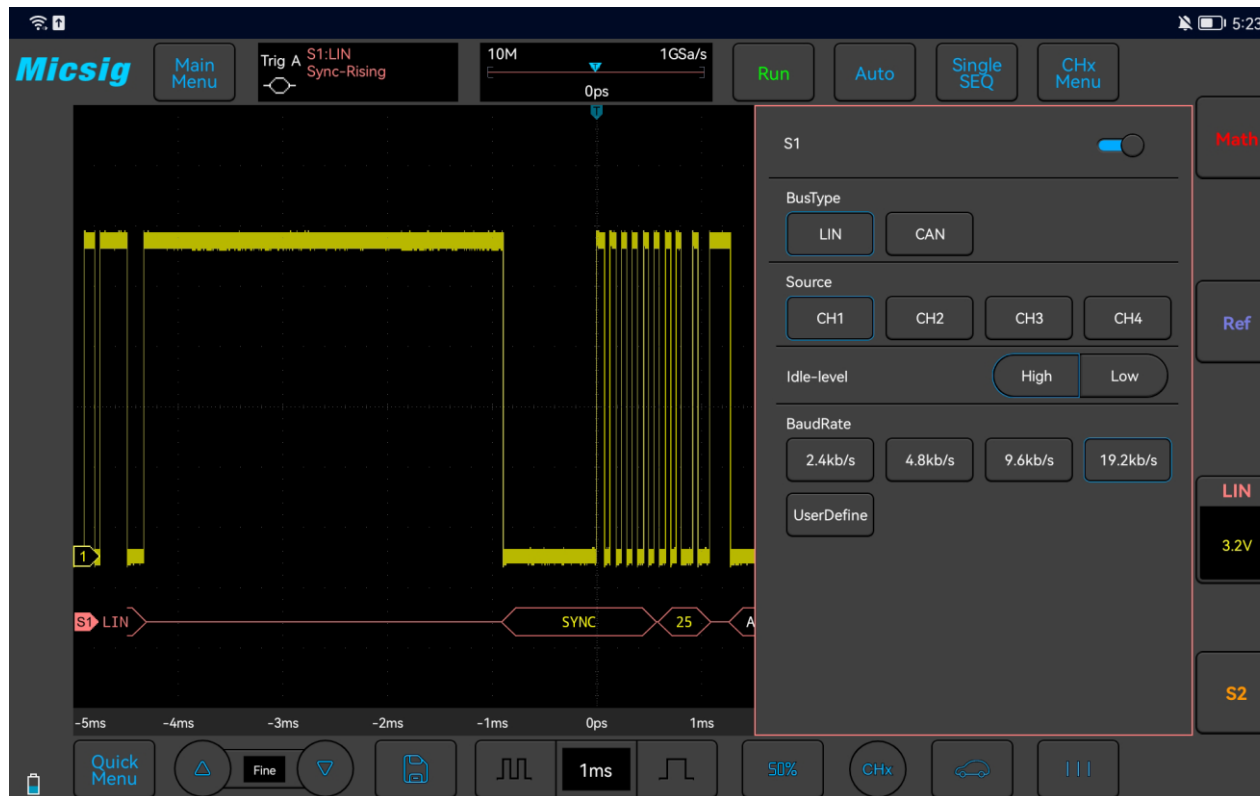

Figure 12-2 LIN Bus Configuration Menu
(1) Tap S1 to open the decode channel, and click S1 again to open the bus configuration menu;
(2) Select the bus type as “LIN”, click “Ch1”, “Idle High”, “Parity None”, “8bit”, “19.20kb/s”, display “hexadecimal”, then close menu;
(3) Open the trigger mode setting menu, click “Data”, enter 55 manually, and press “enter” to confirm;
(4) Adjusting the threshold level according to the amplitude level of signal may make the signal to be stably triggered. The LIN trigger graphic interface is shown in Figure 12-2:
Method: Click configuration information  to open the decode channel threshold level adjustment box, and drag the adjustment box upward and downward to adjust the threshold level. As shown in Figure 12-2: